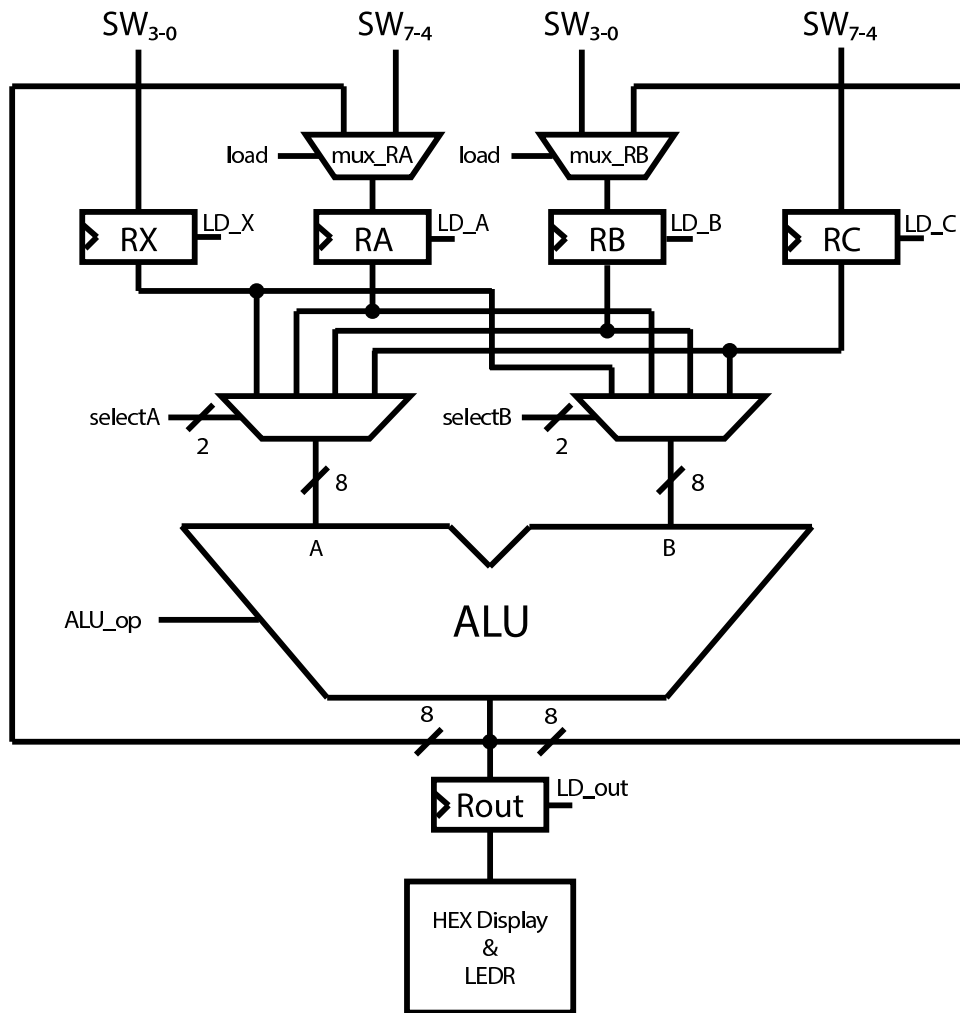

Figure 4: Block diagram of datapath.
Figure 4 shows the block diagram of the datapath you will build. Resets are not shown, but do not forget them. The datapath will carry 8-bit unsigned values. Assume that the input values are small enough to not cause any overflows at any point in the computation, i.e., no results will exceed $2^8 - 1 = 255$. The ALU needs only to perform addition and multiplication, but you could use a variation of the ALU you built previously to have more operations available for solving other equations if you wish to try some things on your own. There are four registers R_x , R_A , R_B and R_C used at the start to store the values of x , A , B and C , respectively. The registers R_A and R_B can be overwritten during the computation. There is one output register, R_{OUT} , that captures the output of the ALU and displays the value in binary on the LEDs and in hex on the Hex displays. Two 8-bit-wide, 4-to-1 multiplexers at the inputs to the ALU, $MuxRA$ and $MuxRB$, are used to select which register values are input to the ALU.
From Figure 4 you can see that there are five registers that are similar in structure. Write a generic register module that you can instantiate with the appropriate inputs and outputs for the five registers. Also write modules for the 2-to-1 and 4-to-1 multiplexers since you need more than one of them as well.
Build your datapath module by instantiating and connecting the registers and multiplexers according to Figure 4. You can write your ALU as an always block, or also instantiate a module, such as the one you built in a previous lab. You may use the add and multiply operator symbols, i.e., you do not have to build your own operator logic.
// Some of the control signals as labeled on Figure 4
2. Draw a schematic of your circuit. Here you may find that a hierarchical schematic will make things easier. You can draw separate schematics for the datapath and the control path. Figure 4 is almost all that you need for the datapath, but you should add other labels like the wires and show the HEX displays and LEDs in more detail. You can make another schematic representing the controller. Clearly label the inputs and outputs of these schematics. For the complete design, draw a top-level schematic that incorporates two boxes representing the datapath and controllers and show how their inputs and outputs are connected in your top-level module. Do not forget to show the inputs and outputs to your top-level module.